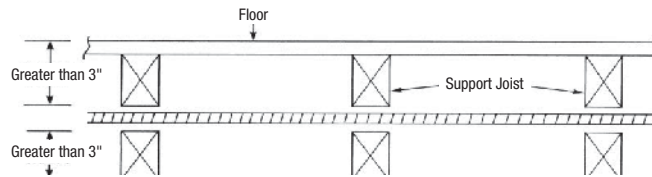

Figure 4.13 Penetration Point Greater than 3" from Edge of Stud, Joist, Plate, etc.
1. Support tubing such that it is more than 3 inches away from any outside edge of a stud, joist, plate, etc., or wall surface. (See Figure 4.13 compared to Figure 4.11)